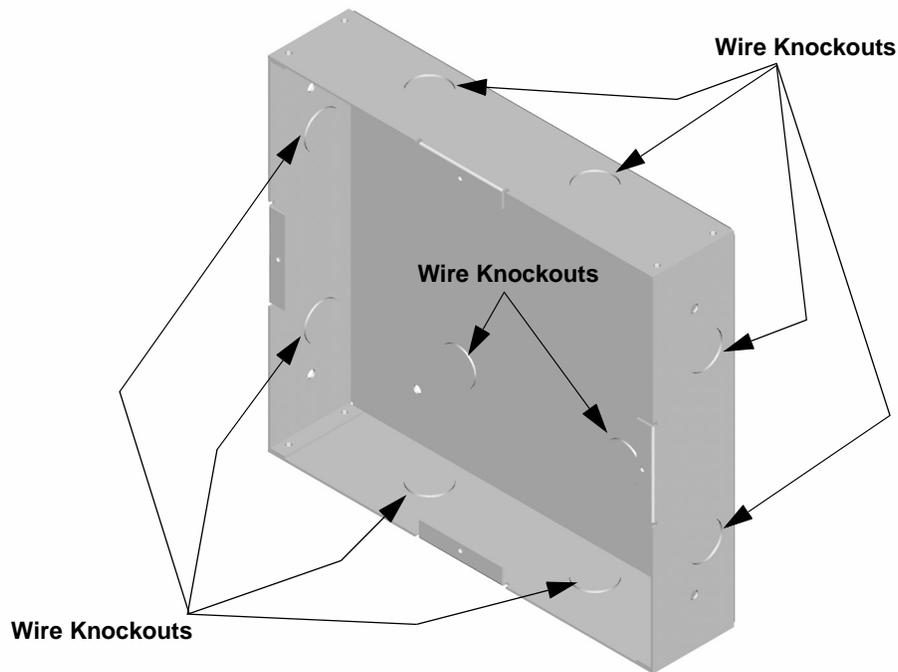

Figure 4-18 Back Box Knockout Locations
2. Remove knockout holes as needed for wires. See Figure 4-18 for backbox knockout locations
1. Remove the desired knock out. See Figure 4-18.